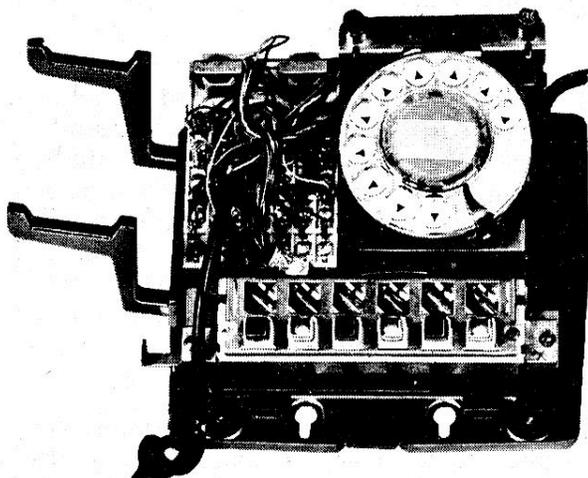
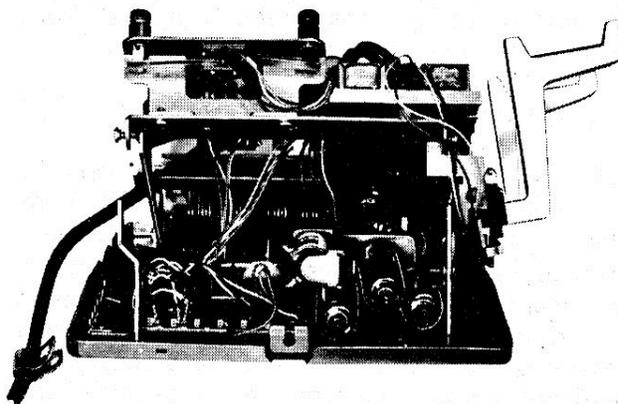

Figure 5. Front View of a Rotary-Dial-Equipped Type 187 Telephone Set with Housing and Faceplate Removed.
Figure 6. Rear View of Type 187 Telephone Set with Chassis Raised and Common Audible Signal Unit in Place.
2.11 Figure 5 is a front view of the rotary dial-equipped Type 187 with the housing and faceplate removed. Figure 6 is the rear view of the same set with the chassis raised and a common audible signal unit installed. Both the wall and the desk configurations of the Type 187 are constructed on the same type of pressed steel base to which are eyeleted two U-shaped brackets for support of the chassis. The bracket with the shorter vertical legs runs laterally near the edge of the base that forms the front of the desk telephone set and the top of the wall-mounting set. Two turned-up tabs with horizontal pierced slits extend forward from this shorter bracket and serve to engage securing lugs in the shorter wall of the housing. The taller bracket lies along the opposite edge of the base, and has a central turned-up tab with a vertical slot for engaging a housing securing screw located in the taller wall of the housing.